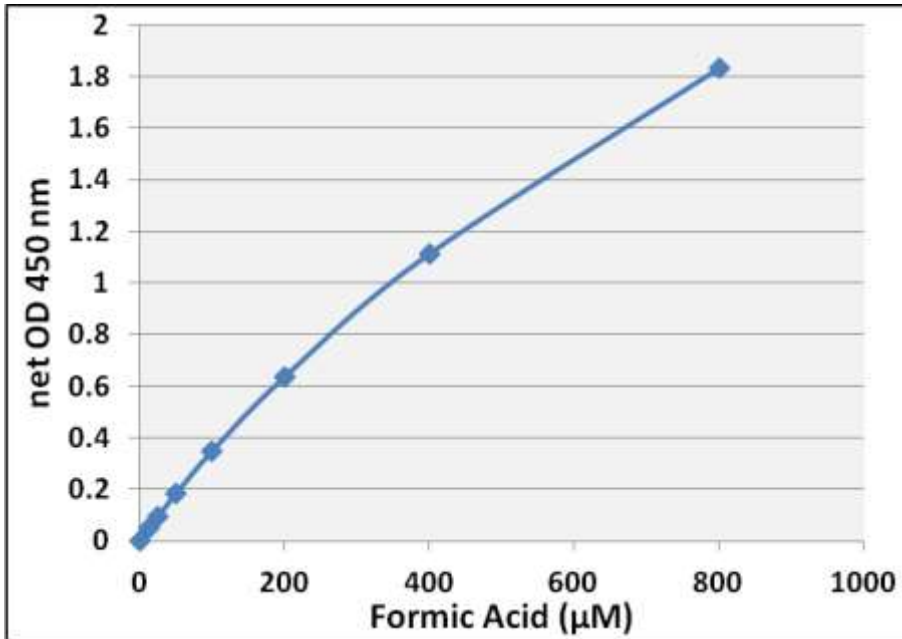

Figure 2. Formate Standard Curve.
3. Graph the standard curve (see Figure 2).